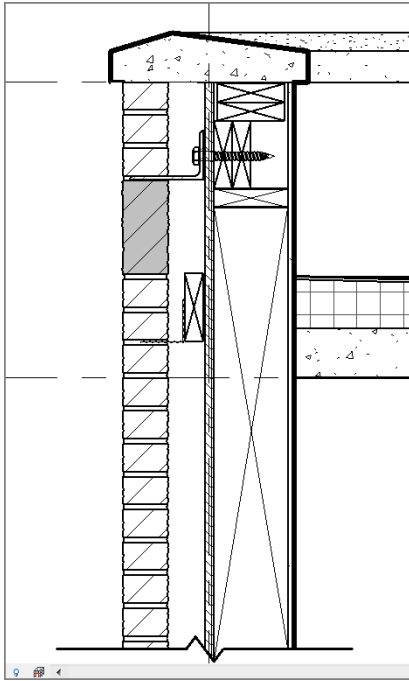

FIGURE 12.50: Adding the detail to indicate studs and plates by using detail lines
12. Draw the *X* for the blocking, as shown in Figure 12.50.
13. Copy the blocking down to form a double plate (see Figure 12.50).
14. Draw another *X* below the plates to indicate a stud (again, see Figure 12.50).